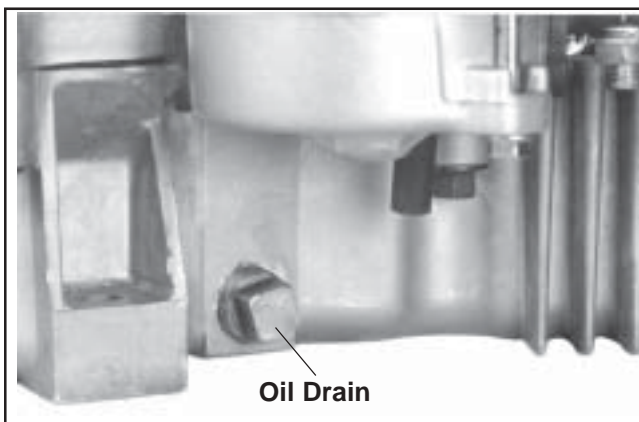

Figure 6-4. Oil Drain Plug (Starter Side).
1. A drain plug is located on either side of the oil sump; one is near the starter, the other is near the oil filter. See Figures 6-4 and 6-5. Clean the area around the most accessible oil drain plug and the oil fill cap/dipstick.
Replace the oil filter **at least every other oil change (every 200 hours of operation)**. Always use a genuine Kohler oil filter. Change the filter as follows. See Figures 6-4 or 6-5.